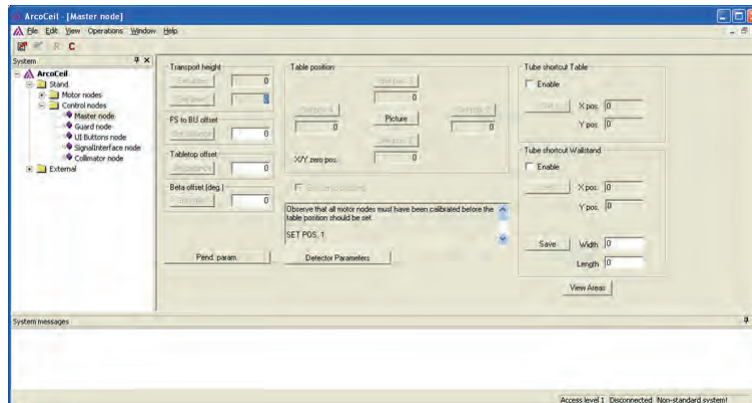

Fig. 5-134
See also Fig. 5-134 Master node view.
See Fig. 5-134 Master node view:
Also see Fig. 5-134 .
3. Move to the *Master view*. See Fig. 5-134 Master node view.
See Fig. 5-134 Master node view.